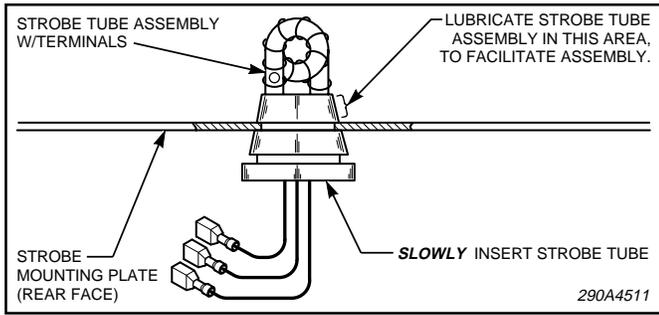

Figure 4.
- See figure 4. SLOWLY insert the new strobe tube in the mounting bar until it is properly seated in the top slot of the strobe tube. If the strobe tube is difficult to insert, remove it and apply a high temperature grease, or Vaseline, to the rubber edge of the strobe tube and try again.